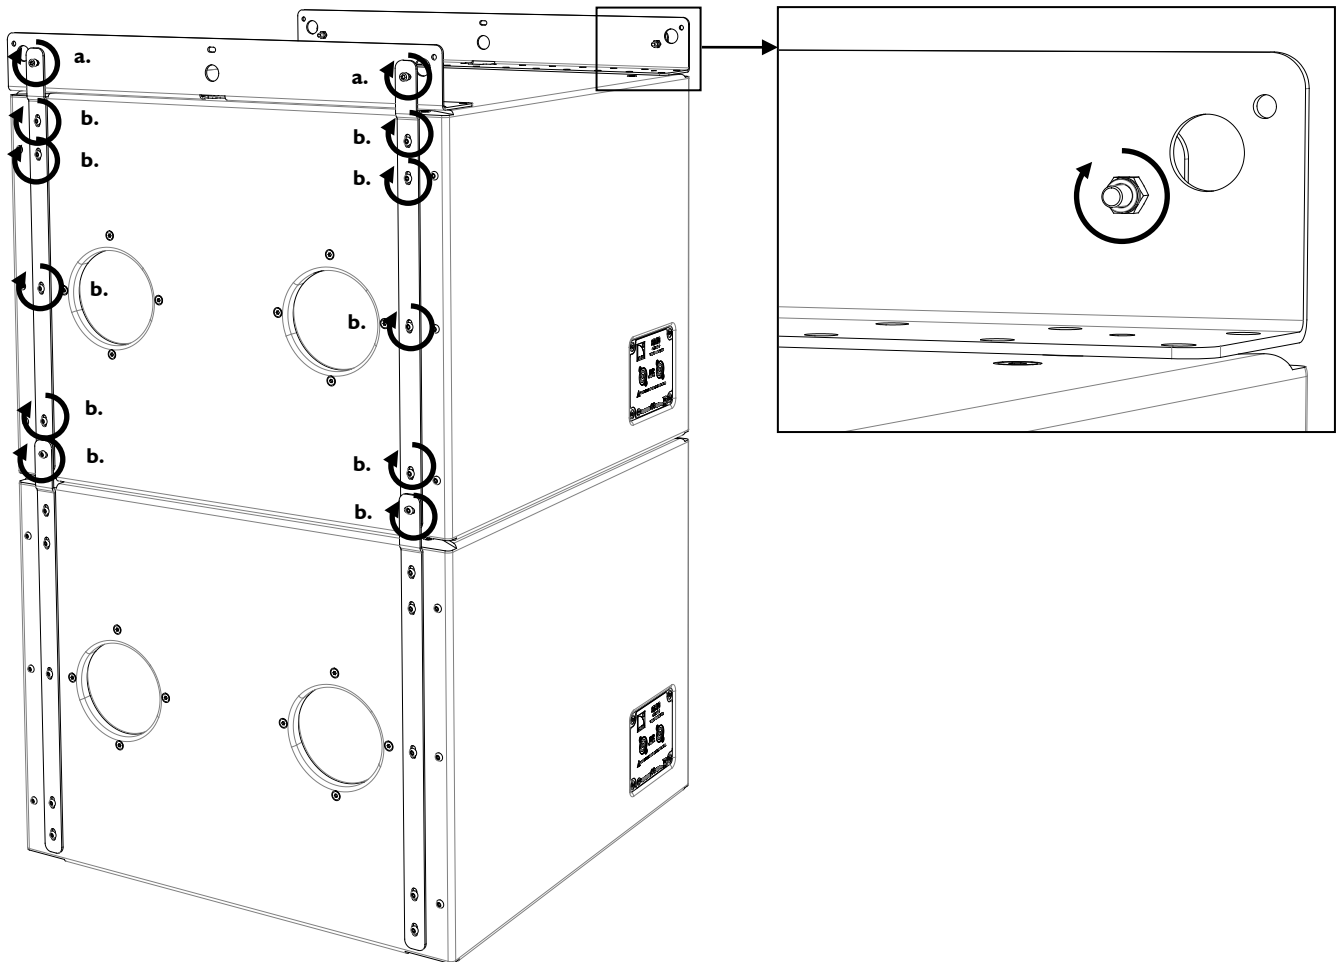

Figure 29: Attaching two M-BUMPi bars to the top SB18i
- a. Position the M-BUMPi bar face to two SB18i arms as shown in Figure 29, and secure it by driving two self-locking M6 hex bolts (included in the M-BUMPi package) (5 mm hex bit, 10 mm hex key, 5 N.m/45 in.lbf).